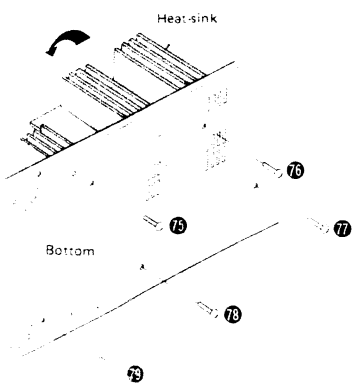
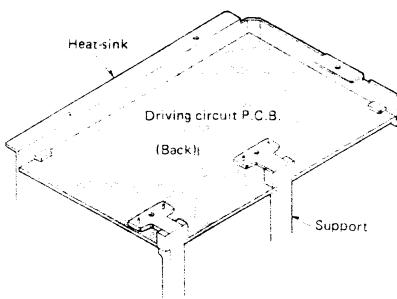

Fig. 19
Fig. 20
2. Remove the 3 setscrews (Fig. 19 : ㉛ ~ ㉝) of the heat-sink and 2 setscrews (Fig. 19 : ㉞, ㉟) of the printed board support, shift down the board in the direction of the arrow and check it from the back side. (Fig. 20)